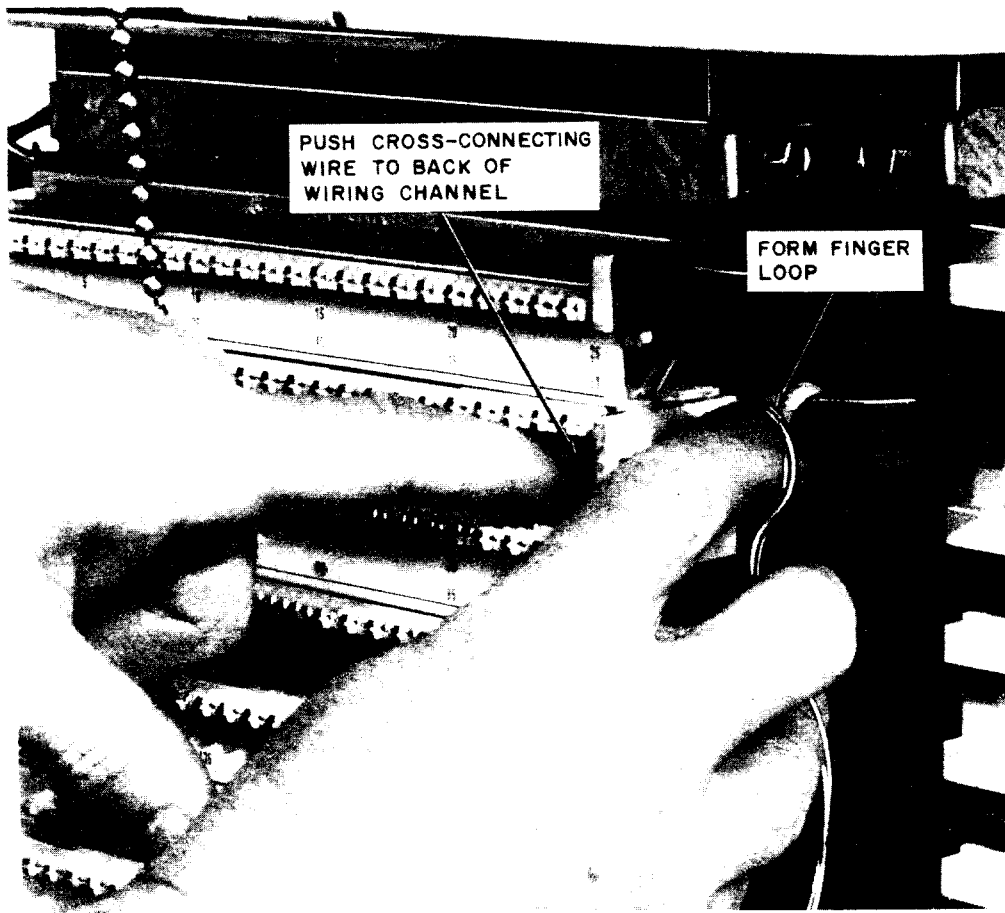

Fig. 5—Placing Cross-Connecting Wire in Wiring Channel and Forming Finger Loop
3.02 Place new waterproof cap, then push terminated wire to back of wiring channel, position the wires along the channel and through the wiring slot. As the wire comes through the wiring slot form a finger loop (Fig. 5). *These finger loops allow a sufficient amount of slack*